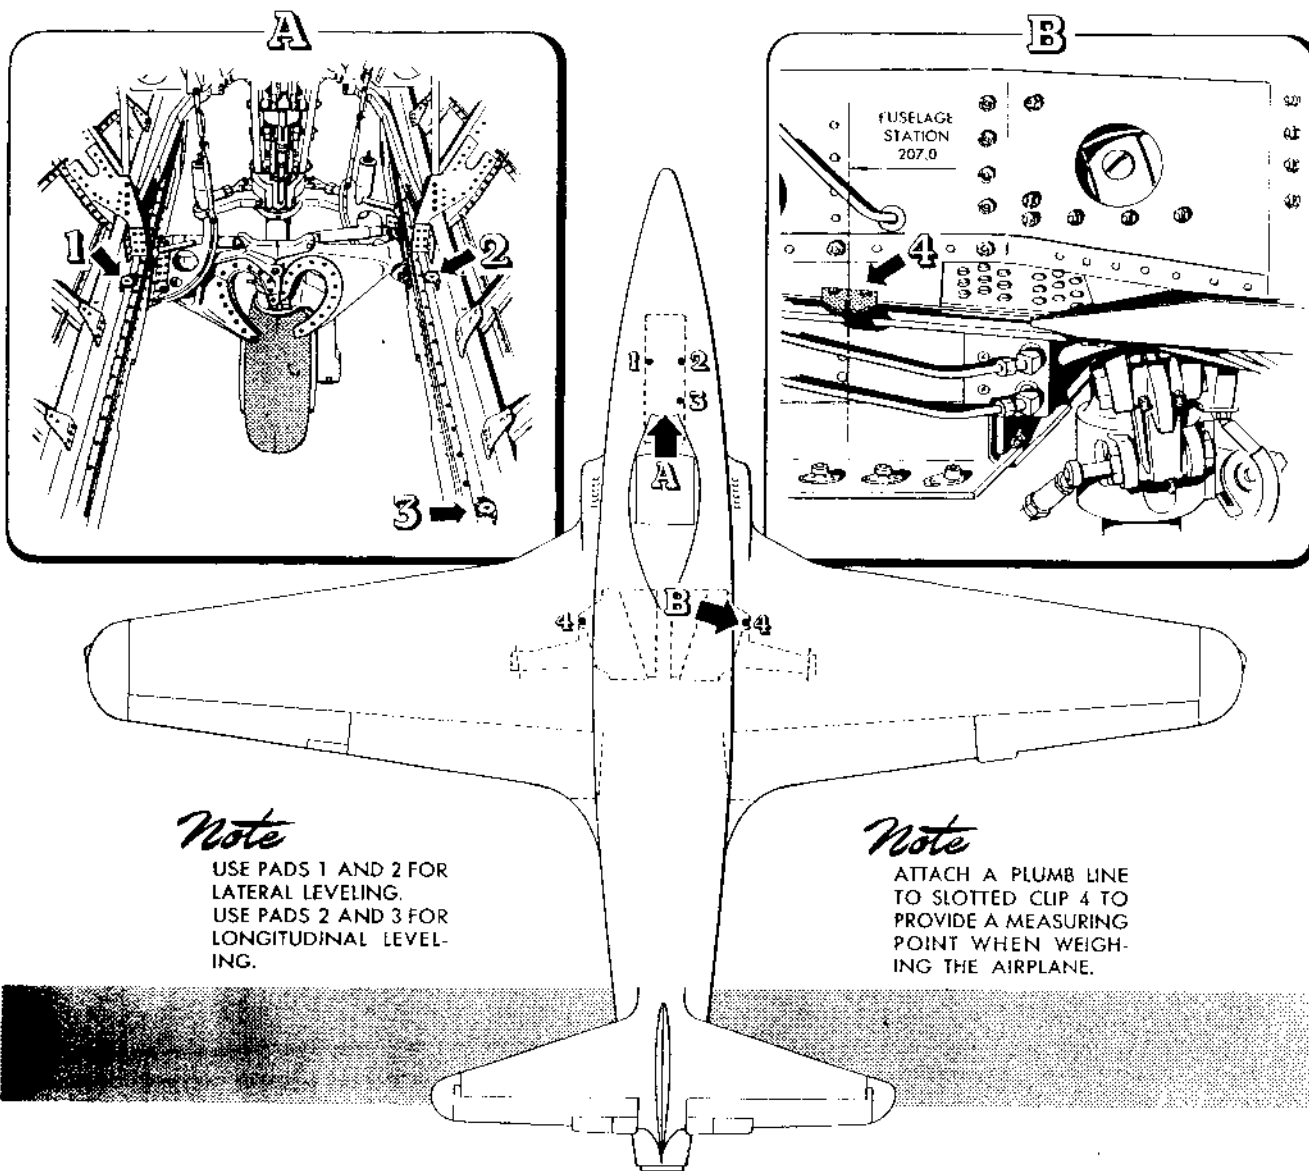

Figure 18 — Leveling and Measuring Points
e. LEVELING. (See figure 18.)
(1) Pads upon which to place a spirit level are attached to the lower longerons in the nose wheel well, two on the right side and one on the left. These level-